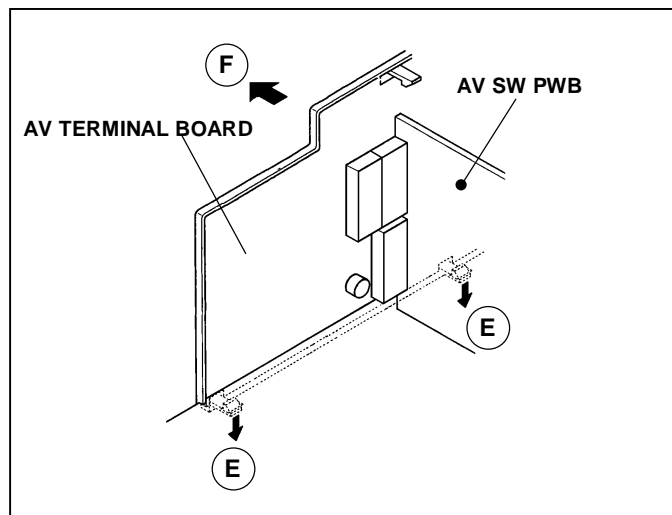

Fig. 2
2. As shown in Fig. 2, remove the 2 claws marked **E** under the CHASSIS.
3. As shown in Fig. 2, remove the AV TERMINAL BOARD slightly in the direction of arrow **F**.